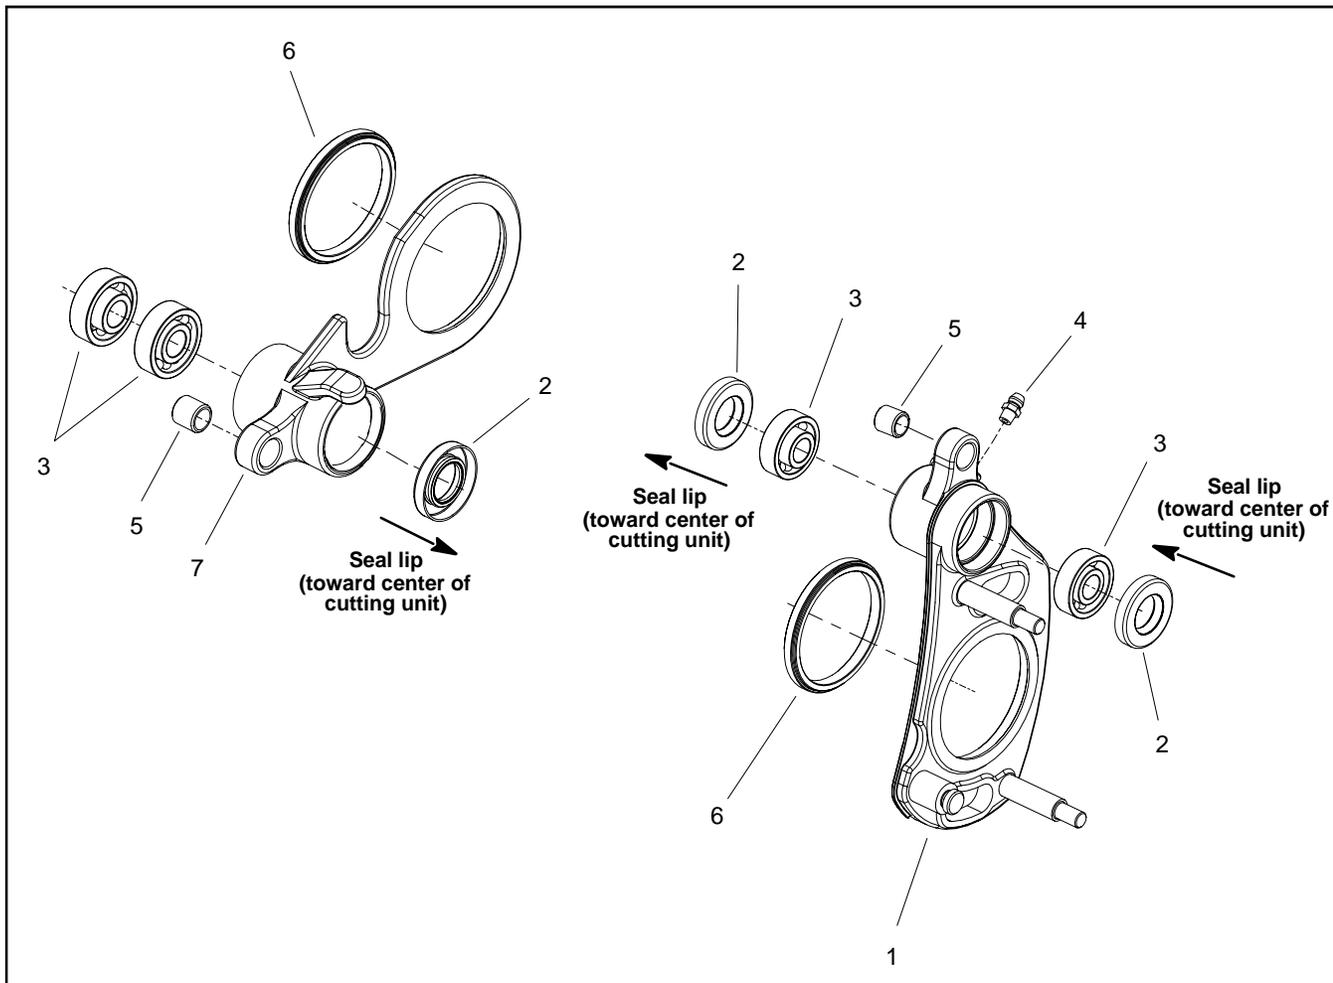

Figure 13
Note: The groomer reel drive is located on the opposite side of the cutting unit from the cutting reel hydraulic motor. Figure 13 shows the groomer reel drive from the left side of the cutting unit.
3. Remove bearings in **both** side plate assemblies (Fig. 13):
1. Install new bearings in **both** side plate assemblies (Fig. 13):